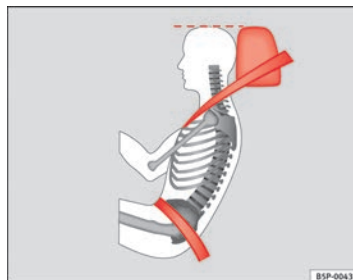

Fig. 13 Correct seat belt and head restraint positions, viewed from side
- The lap part of the seat belt must lie across the pelvis, never across the stomach. The seat belt must lie flat and snugly on the pelvis ⇒ page 22, fig. 13. Pull the belt tight if necessary to take up any slack.